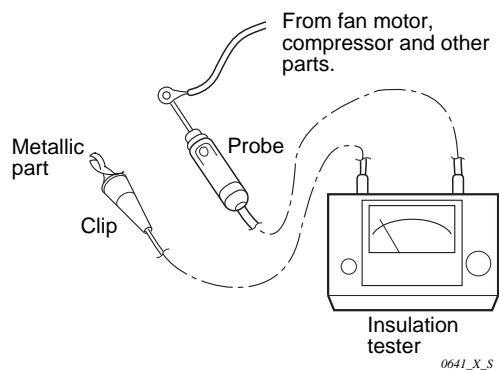

Fig. 24
- Similarly, disconnect the lead wires from compressor, capacitor, etc. (Fig. 24)